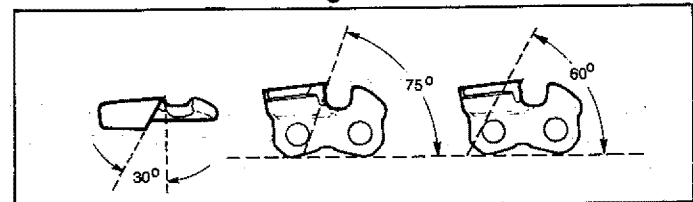

Figure 30
- f.) File P33S chain to meet specifications shown in Figure 30.
Maintain the proper hook angle according to the manufacturer's specification for the chain you are using. Improper hook angle will increase the chance of kickback which can result in serious injury. Figure 30 & 32.